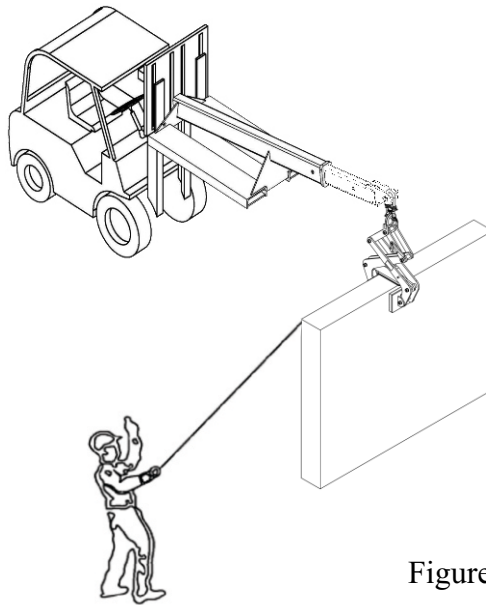

Figure 3.1
**Step 3:** Move the stone slab (Figure 3.1)